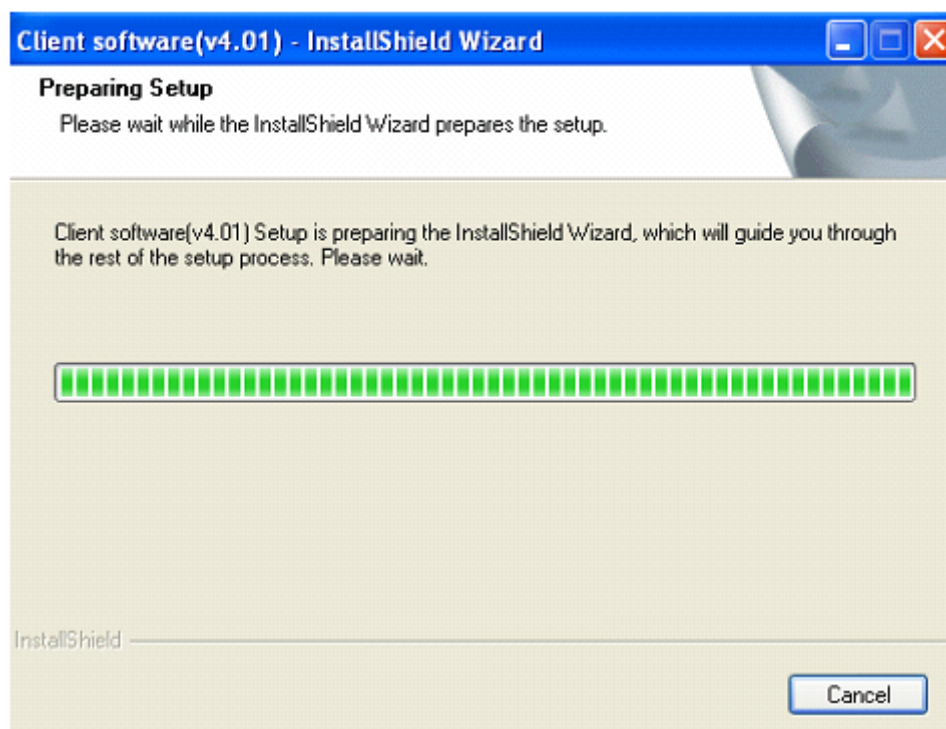
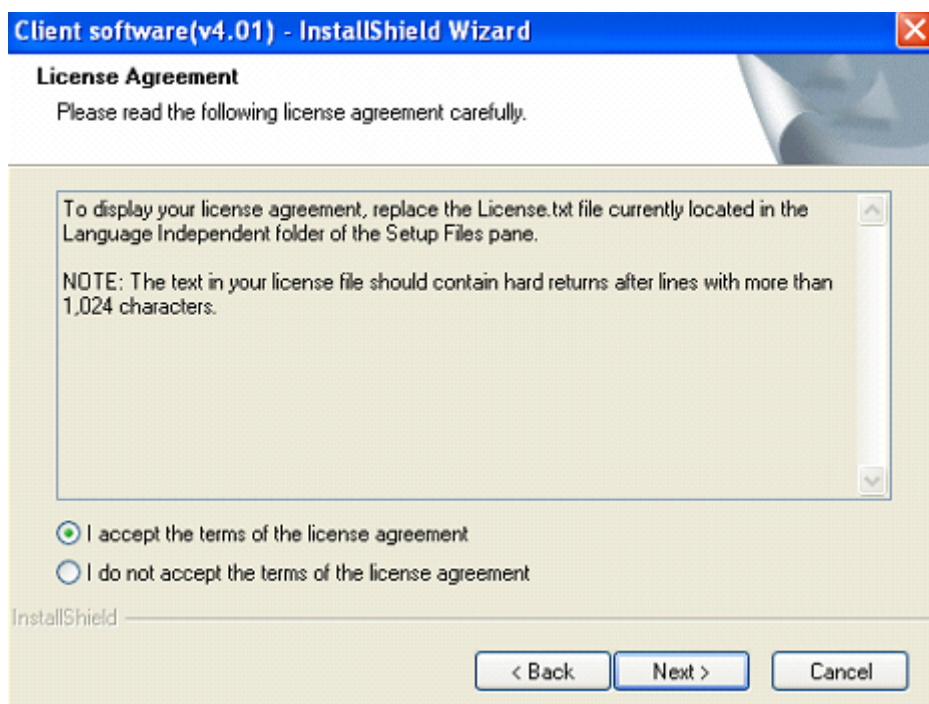

Fig.2.4.1 Client Software Installation
Fig.2.4.2 License Agreement
Step1: Double click "Client software (v4.01)" under Windows Operating System. The "Preparing Setup" dialog box will pop up as Fig.2.4.1 and go to Fig2.4.2 automatically.